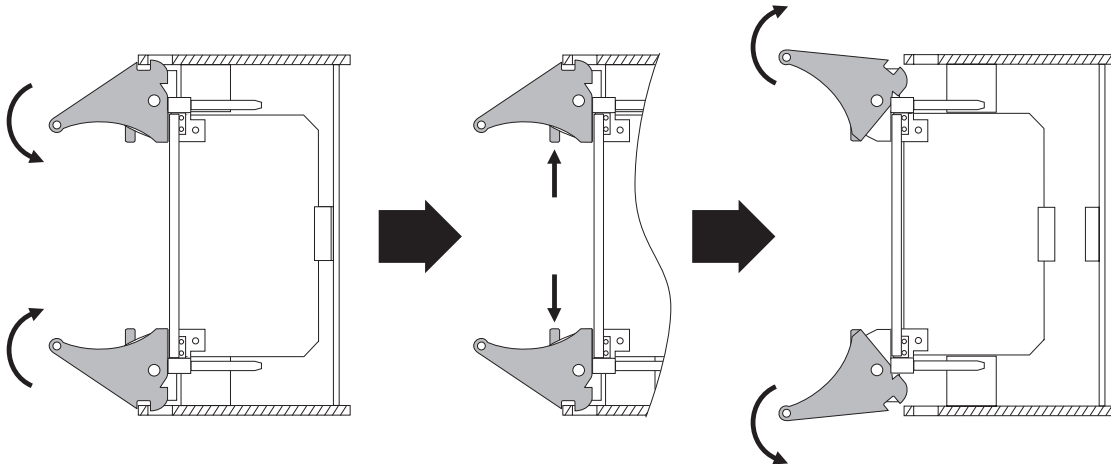

FIGURE 5-1 Injector/Ejector Operation for Board-Level Components
All hot-swappable boards use the same ejector handles to remove and install the boards into the system. FIGURE 5-1 shows the proper way to remove or insert a hot-swappable board into a system.
3. Fully open the ejector handle, rotating it outward until the board disengages from the midplane (FIGURE 5-1).
2. **Prepare the distributed management card by opening its injector/ejector handle** (FIGURE 5-1).
3. Open the ejectors fully, rotating the handles outward until the board disengages from the midplane (FIGURE 5-1).
3. Prepare the switching fabric board by opening its injector/ejector handles (FIGURE 5-1).